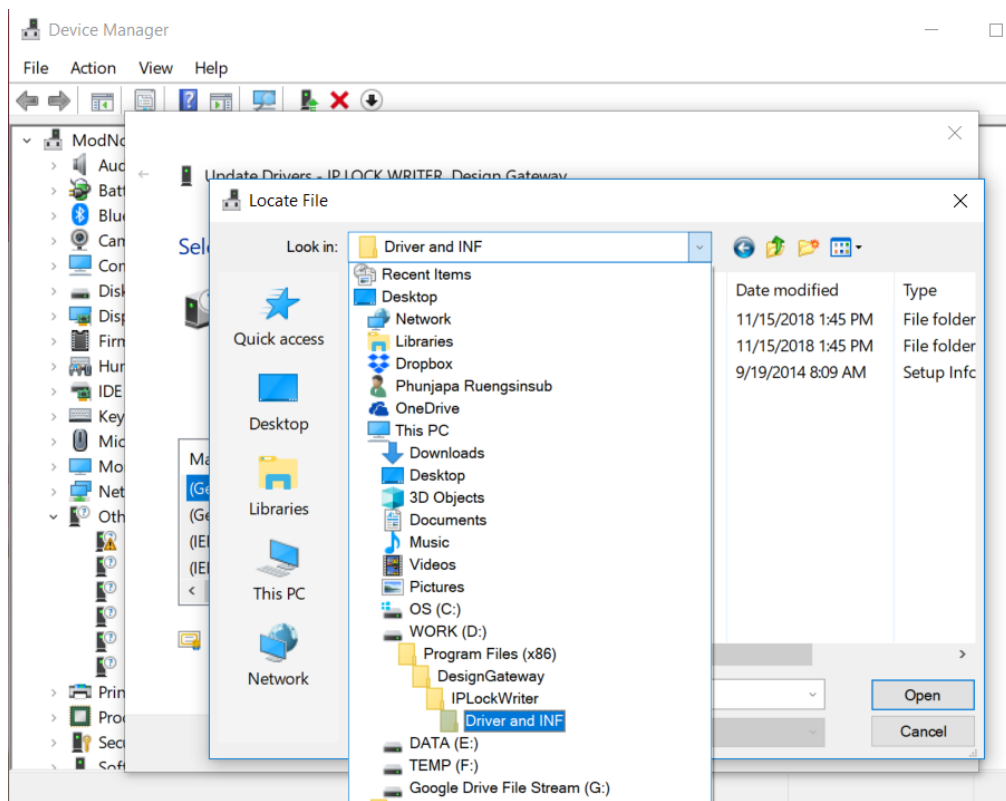
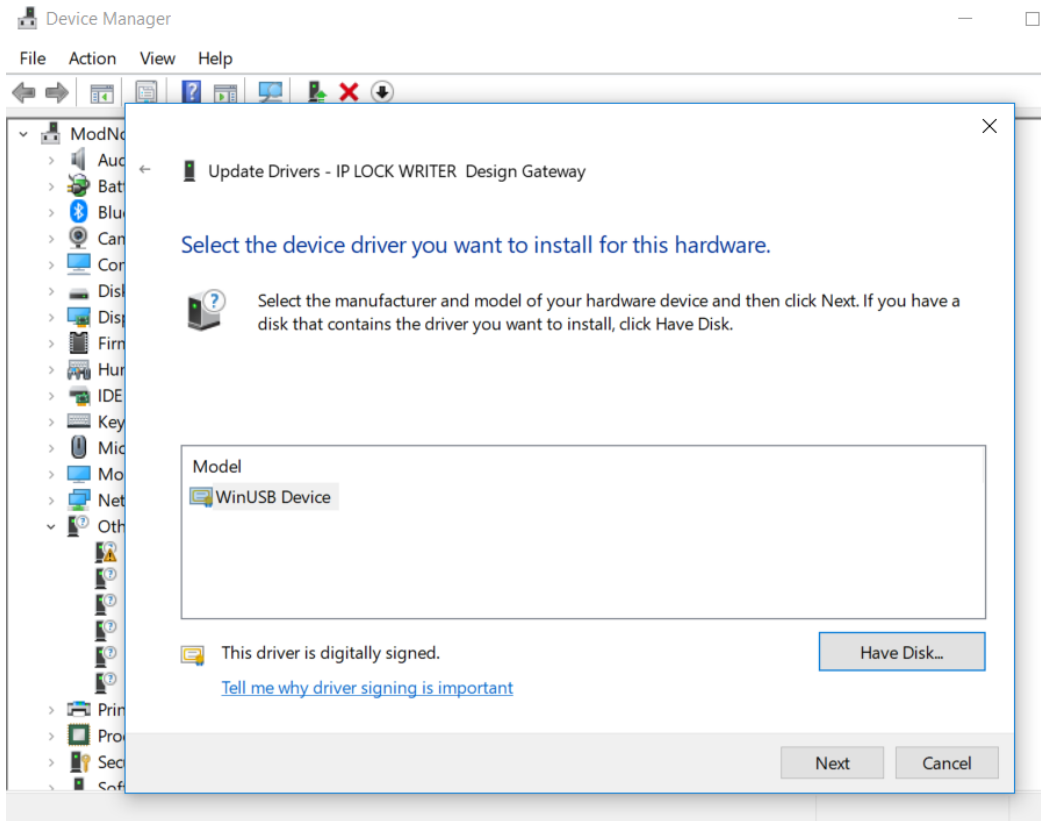

Figure 7-6 Choose INF file
Figure 7-7 WinUSB device is shown
- Choose INF file from \installation folder\DesignGateway\IPLockWriter\Driver and INF and click open as in Figure 7-6 then model "WinUSB" will be shown as in Figure 7-7